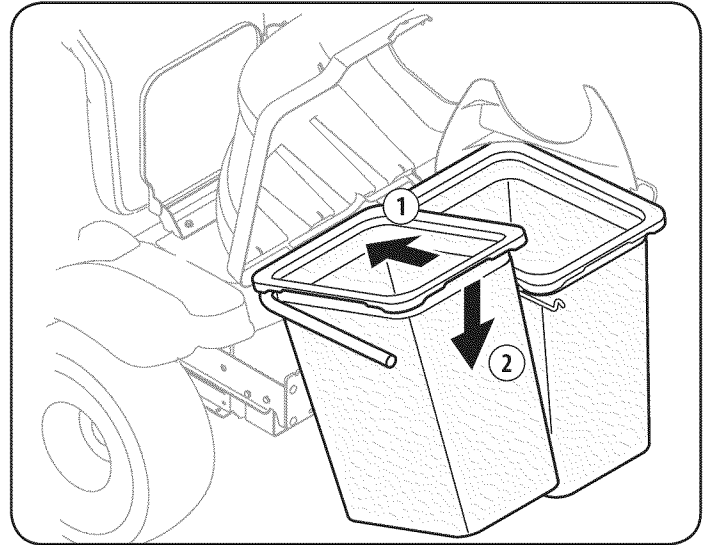

Figure 20
- Install both grass bins onto the bin support assembly by inserting the front edge in first (1), as seen in Fig. 20, and setting the back edge down (2) until it fits into the assembly.